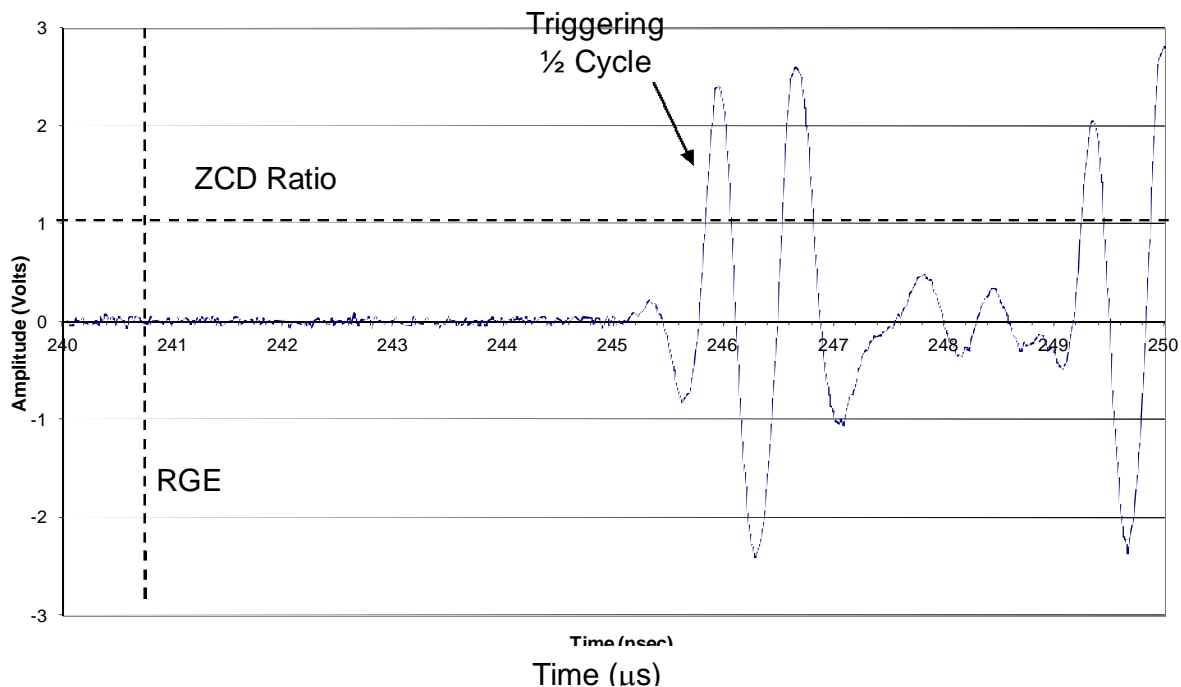

Figure 6-1: Example Transducer Waveform
- With the oscilloscope vertical scale set to 1 volt/division and the timebase set to 2 $\mu\text{sec}/\text{div}$, the transducer signal waveform should be similar to that shown in Figure 6-1.
- Measure the magnitude of the triggering half-cycle and the following negative half cycle (see sample waveform in Figure 6-1) using the averaging function (4 - 8 samples) of the oscilloscope. Calculate the signal strength as follows: